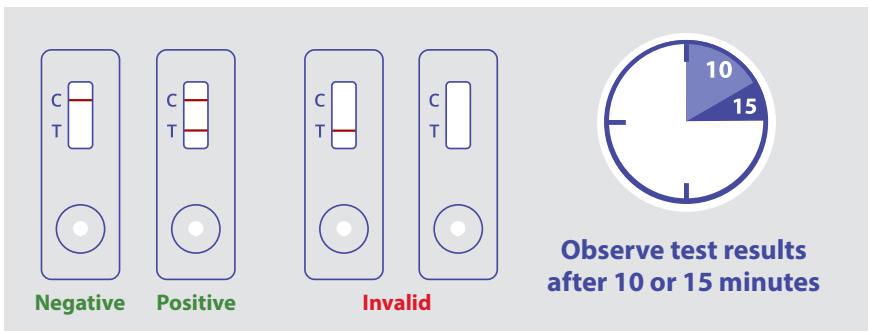

Figure 3. Test Outcomes
8.2.1. A negative result is indicated by the development of a strong control line only (upper line “C”). A negative result will not develop color at the test line (lower line). An example of a negative result is displayed in **Figure 3** labeled “**Negative**”.
8.2.2. A positive result will develop at the test line (lower line “T”) in addition to the control line (upper line “C”). The strength of the test line development will be dependent on the amount of tree nut protein present in the sample; any visible line is considered to be a positive result. An example of a positive result is displayed in **Figure 3** labeled “**Positive**”.
8.2.3. Failure of the control line to appear regardless of test line development is an invalid result. In addition, any line malformation visible on the membrane denotes an invalid test. Examples of malformations would be dark spots, gaps or incomplete line development. Examples of invalid results are displayed in **Figure 3** labeled “**Invalid**”. In the event of an invalid test, the procedure should be repeated using a new test device.